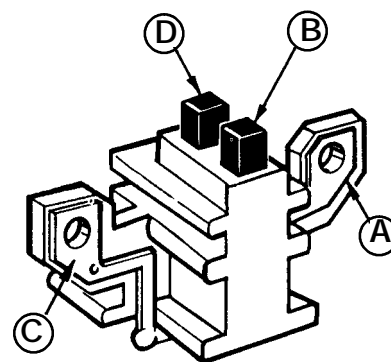

Figure 4-12. Alternator Brush Assembly – 65 Amp
4. Using a 12 vdc test lamp or ohmmeter, test brush assembly for continuity and insulation (see Figure 4-12). Replace brush assembly if necessary.